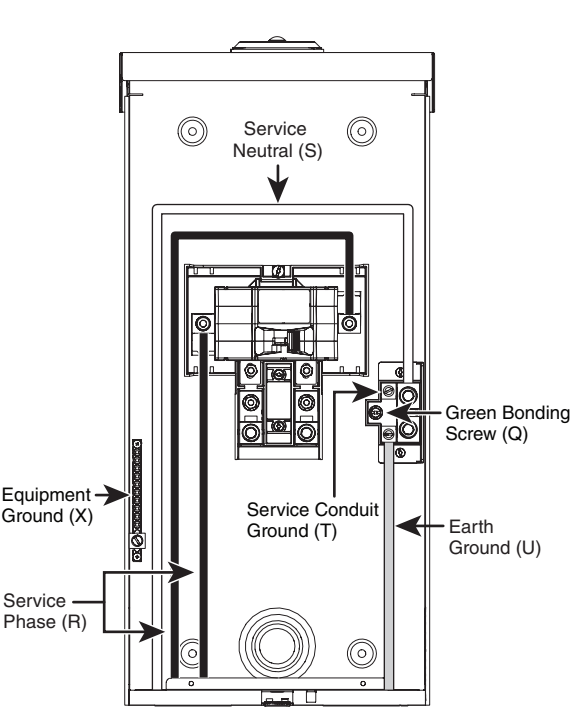

Figure 8
Step 7: Feed-Thru conductors. (See Figure 8.)
- a. Bring the **Feed-Thru Phase (V)**, **Feed-Thru Neutral (W)**, and **Equipment Ground (X)** conductors into the enclosure through the bottom feed knockout.
- b. Connect the **Feed-Thru Phase (V)** , **Feed-Thru Neutral W)**, and **Equipment Ground (X)** conductors to the appropriate terminals and torque to spec in the terminations table.